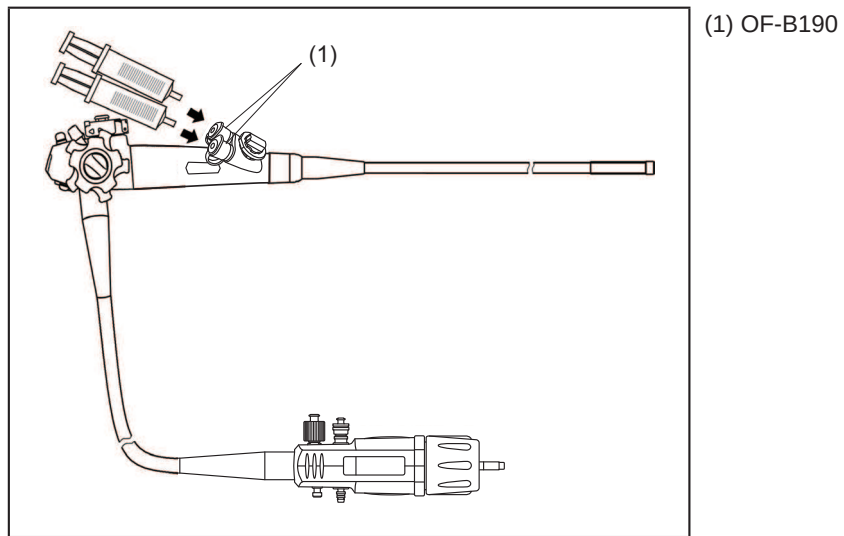

Figure 1.4.25
- 7) Align the suction channel selector knob (OF-B161) to the "A" indicator. Insert a syringe filled with air to OF-B190 on the instrument channel inlet "A", and flush the suction channel with 110 mL of air to purge residual detergent solution. (see Figure 1.4.25, p89)
- 8) Align the suction channel selector knob (OF-B161) to the "B" indicator. Insert a syringe filled with air to OF-B190 on the instrument channel inlet "B", and flush the suction channel with 110 mL of air to purge residual detergent solution. (see Figure 1.4.25, p89)
- 9) Align the suction channel selector knob (OF-B161) to the "A" indicator. Insert a syringe filled with water to OF-B190 on instrument channel inlet "A", and flush the suction channel with 440 mL of water. (see Figure 1.4.25, p89)
- 10) Align the suction channel selector knob (OF-B161) to the "B" indicator. Insert a syringe filled with water to OF-B190 on instrument channel inlet "B", and flush the suction channel with 440 mL of water. (see Figure 1.4.25, p89)
- 15) Align the suction channel selector knob (OF-B161) to the "A" indicator. Insert a syringe filled with air to OF-B190 on the instrument channel inlet "A", and flush the suction channel with 110 mL of air. (see Figure 1.4.25, p89)
- 16) Align the suction channel selector knob (OF-B161) to the "B" indicator. Insert a syringe filled with air to OF-B190 on the instrument channel inlet "B", and flush the suction channel with 110 mL of air. (see Figure 1.4.25, p89)